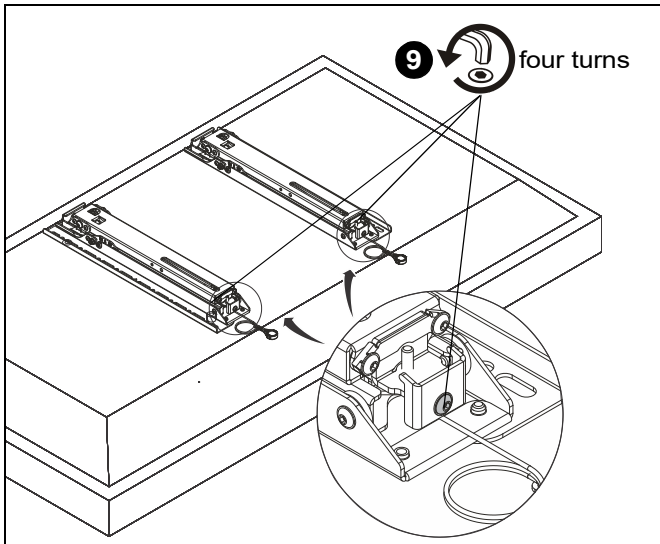

Figure 20
9. Loosen two button head cap screws at bottom of each interface bracket (A and B) at least four turns. (See Figure 20)